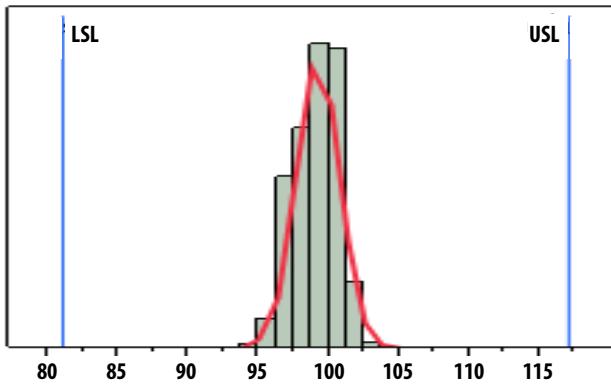

Figure 1. Idd, LSL = 81 mA, nominal = 99 mA, USL = 117 mA
RF performance at $T_A = 25^\circ\text{C}$, $V_{dd} = 5\text{ V}$, 1785 MHz, measured on demo board in Figure 1 with component listed in Table 1 for DC bypass.
1. Measurements at 1785 MHz obtained using demo board described in Figure 1.